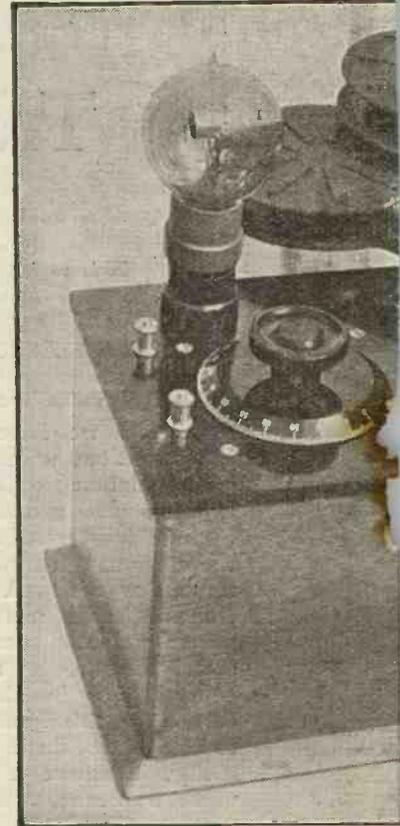

Fig. 1.—The Co
The photograph, Fig. 1, shows
- One 2-coil holder. That seen in Fig. 1 is a new type made by the Radio Communication Co., possessing a very fine movement obtained by a universal joint somewhat similar to that employed in the anti-aircraft guns.